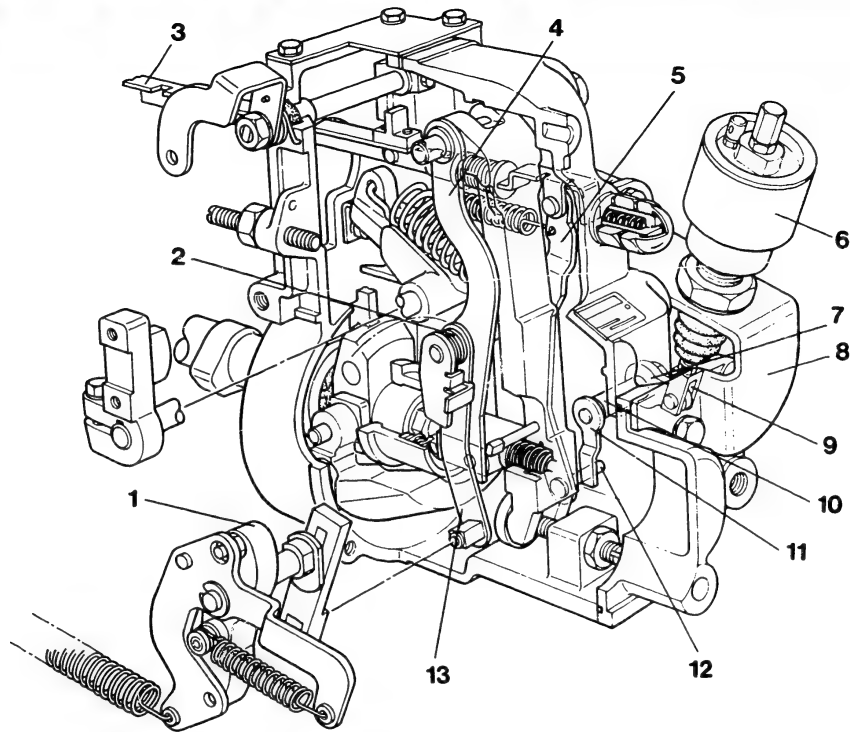

Fig. 48
The clevis at the end of the pushrod is connected to the A.C.S. lever (1) of the governor (Fig. 48).
Figure 48 shows the construction of the RFD type governor with the A.C.S.